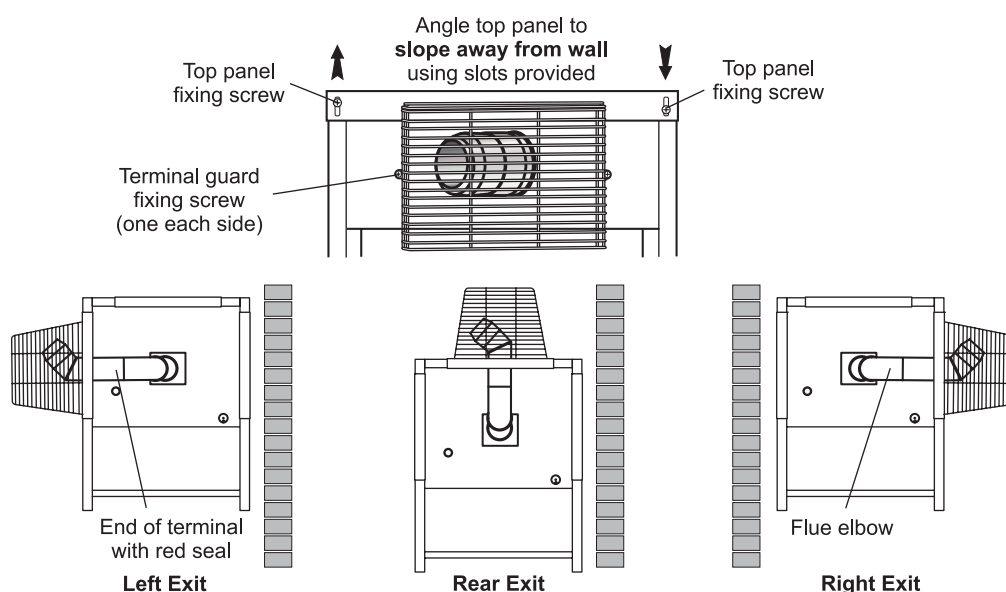

Fig. 12
- 9 The top panel of the casing has been designed so that it may be fitted to create a slight slope away from the side positioned against the wall. To tilt the top panel, loosen the four top panel casing screws, one at each corner and push down on the side furthest from the wall. Tighten the screws. See Fig. 12.